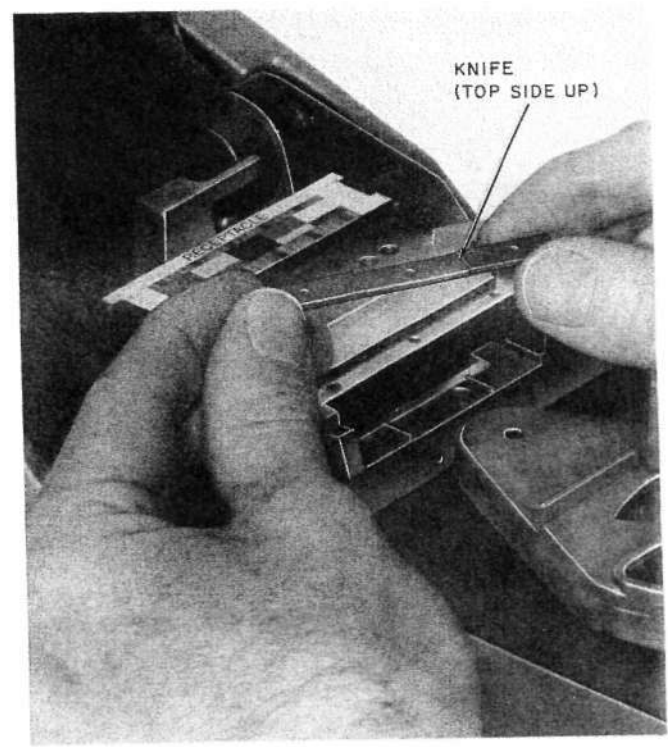

Fig. 30—Removal of Knife
**4.04** Note that the upper side of the blade has a wide notch in the middle while the underside is completely flat (Fig. 30). Always mount the knife with its notched side upward.